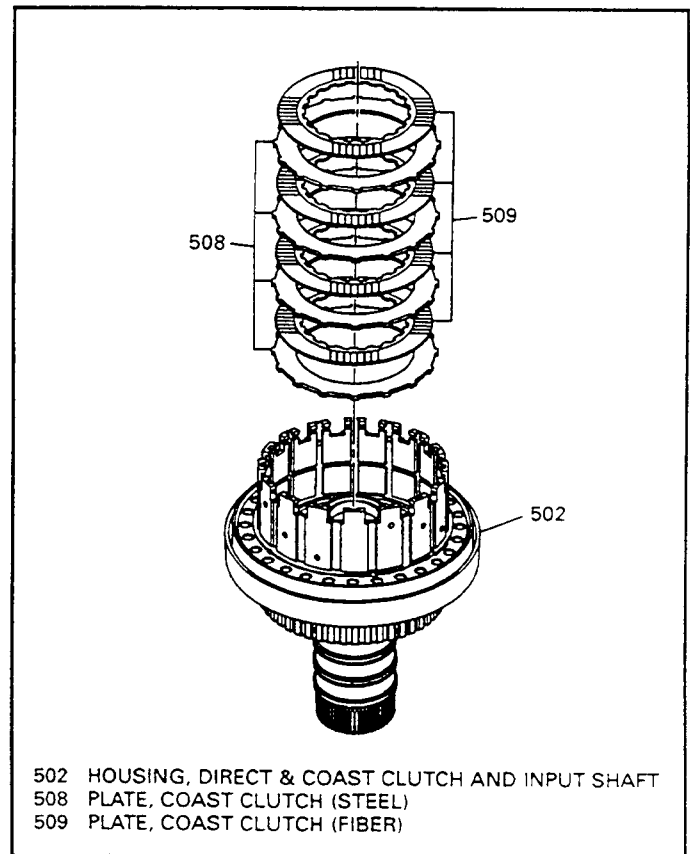

Figure 131
15. Install the coast clutch plates into the input housing beginning with a steel plate and alternating with lined plates until you have installed four steel and four lined plates, as shown in Figure 131.